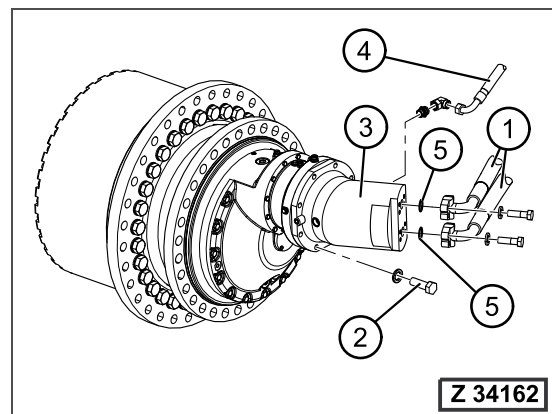

Fig. 4-75
5. Assemble six mounting bolts (Fig. 4-75, Pos. 2) with washers to attach the travel motor ((Fig. 4-75, Pos. 3).
6. Assemble the leak oil tube (Fig. 4-75, Pos. 4).
7. Install the flat seals (Fig. 4-75, Pos. 5) into mounting position.
8. Connect the hydraulic flange connection (Fig. 4-75, Pos. 1) to the travel motor.